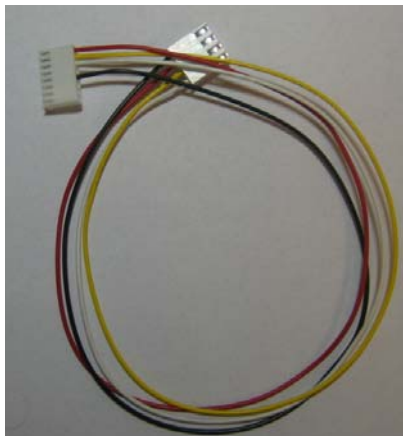
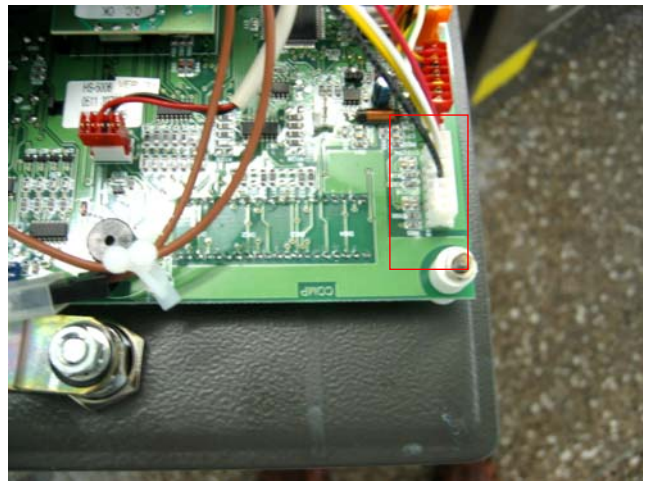

Figure 3.2.11
Figure 3.2.12: Machine
3. Use the provided cable (figure 3.2.11) to connect the machine and the CRC as shown in figures 3.2.12 and 3.2.13.